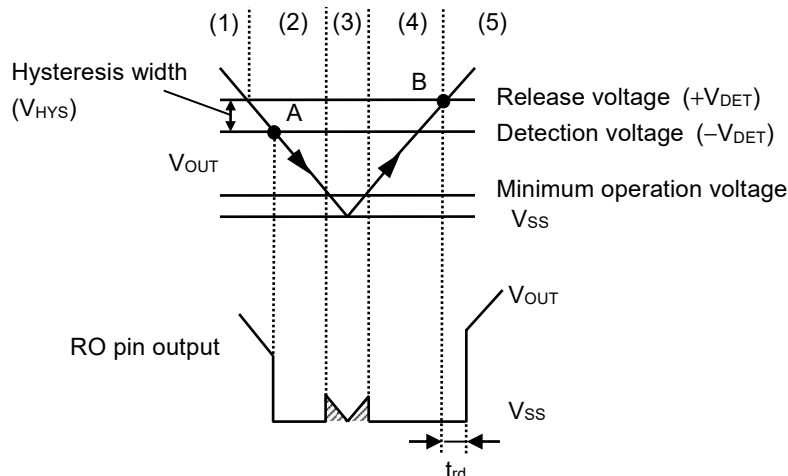

Figure 36 Timing Chart of Detector Block
- (1) When the output voltage ( $V_{OUT}$ ) of the regulator is release voltage ( $+V_{DET}$ ) of the detector or higher, the Nch transistor (N1 and N2) are turned off and "H" is output to the RO pin. Since the Pch transistor (P1) is turned on, the input voltage to the comparator (C1) is  $\frac{R_B \cdot V_{OUT}}{R_A + R_B}$ .
- (2) Even if  $V_{OUT}$  decreases to  $+V_{DET}$  or lower, "H" is output to the RO pin when  $V_{OUT}$  is the detection voltage ( $-V_{DET}$ ) or higher. When  $V_{OUT}$  decreases to  $-V_{DET}$  (point A in **Figure 36**) or lower, N1 which is controlled by C1 is turned on, and  $C_{DLY}$  is discharged. At the same time, N2, which is controlled by the delay circuit, is turned on, and "L" is output to the RO pin. At this time, P1 is turned off, and the input voltage to C1 is  $\frac{R_B \cdot V_{OUT}}{R_A + R_B + R_C}$ .
- (3) If  $V_{OUT}$  further decreases to the IC's minimum operation voltage or lower, the RO pin output becomes uncertain. If the RO pin is pulled up, "H" is output.
- (4) When  $V_{OUT}$  increases to the IC's minimum operation voltage or higher, "L" is output to the RO pin. Moreover, even if  $V_{OUT}$  exceeds  $-V_{DET}$ , the output is "L" when  $V_{OUT}$  is lower than  $+V_{DET}$ .
- (5) When  $V_{OUT}$  increases to  $+V_{DET}$  (point B in **Figure 36**) or higher, N1 is turned off and  $C_{DLY}$  is charged. When  $V_{DLY}$  increases to the threshold voltage (1.25 V typ.), N2, which is controlled by a delay circuit, is turned off and "H" is output to the RO pin.